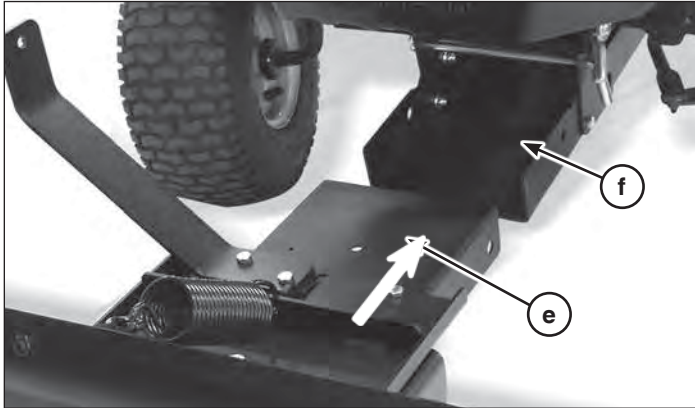

Figure 13
11. Move the pivot assembly (e, Figure 13) onto the sub-frame (f). Align the holes on the pivot assembly and sub-frame.